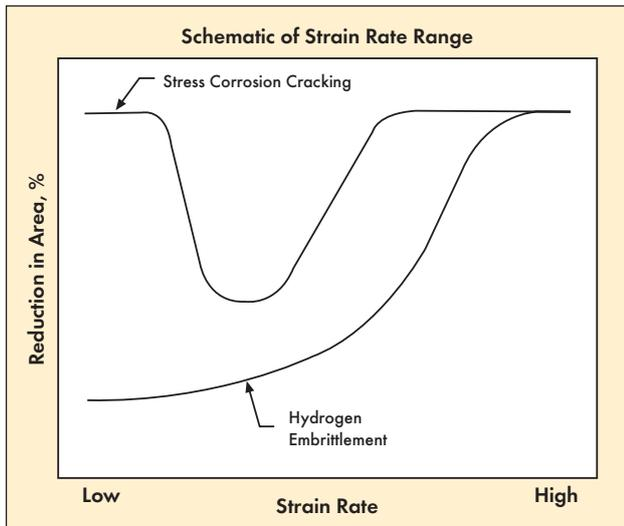

Figure 1.6.3.5: ASTM G129: Effect of SSR testing on the Reduction in Area for a HE specimen⁽²⁾.
Figure 1.6.3.1: Macro-photographs of the failure by HE initiated at a "fish eye" of a 360 mm shaft manufactured from a low alloy Cr-Ni-Mo-V quenched and tempered steel⁽⁹⁾.
Figure 1.6.3.2: SEM fractographs of both cleavage and dimple fracture areas from the same freshly impact broken sample of a quenched and tempered low alloy Cr-Ni-Mo-V steel that was known to contain Hydrogen in excessive quantities. The white arrows show a few of the large number of secondary microcracks⁽⁹⁾.
Figure 1.6.3.3: Slow SSR tested fractographs of the same 360mm shaft as in Figure 1.6.3.2 above. Note the "patches" of cleavage fracture areas amidst dimple fractured areas in the center of both figures with both of them showing clear "tear ridges"⁽¹⁰⁾ seen as the fine lines on the cleavage planes⁽⁹⁾.
Compare the "clean" cleavage planes in *Figure 1.6.3.2* of a fast fractured specimen with the cleavage planes full of "tear ridges" of a SSR tested one in *Figure 1.6.3.3*, both from the same 360mm Cr – Ni – Mo – V shaft.
4. Finally, SSR testing will also reveal a low Z (Reduction in Area) if compared to a normal tensile tested sample, as shown in *Figure 1.6.3.5* taken from the Standard for slow strain rate testing for HE susceptibility: ASTM G129⁽²⁾.